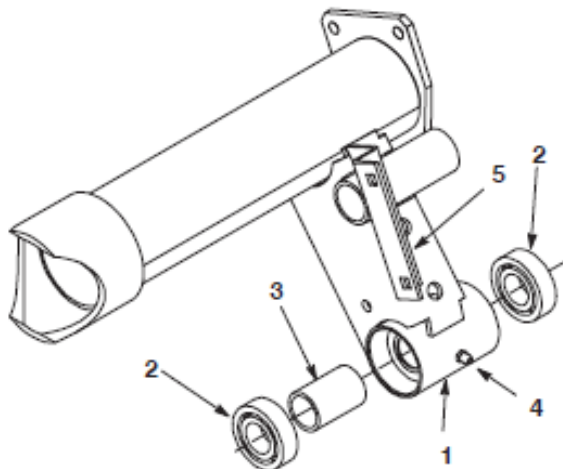

Figure 2
11. Remove the grease fitting from the jack shaft support, is so equipped (Fig. 2).
12. Remove the carriage bolts and nuts securing the jack shaft support bracket to the pump mount (Fig. 2).
14. Carefully install the bearings and spacer into the new jack shaft support (Fig. 2). Also, install the grease fitting to the jack shaft support.